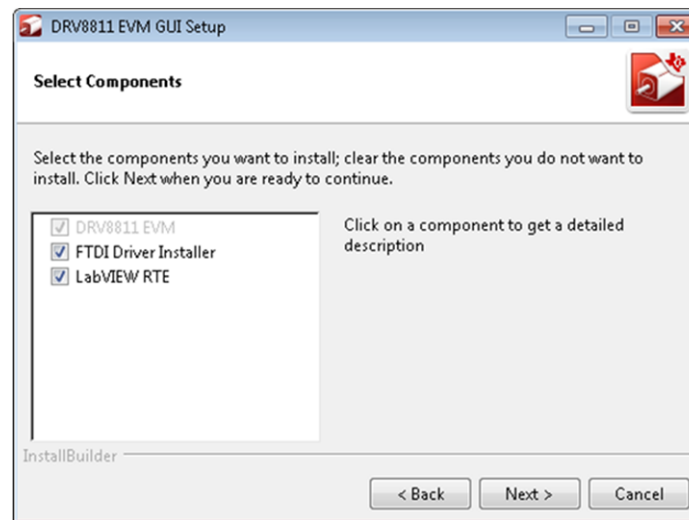

Figure 8. Component Selection
6. A screen as shown in Figure 8 appears. This screen is to select the components to install. Select the Components to Install and Click **Next** to continue installation. The LabVIEW RTE component checks out if the LabVIEW RTE 2014 is already installed on the PC.